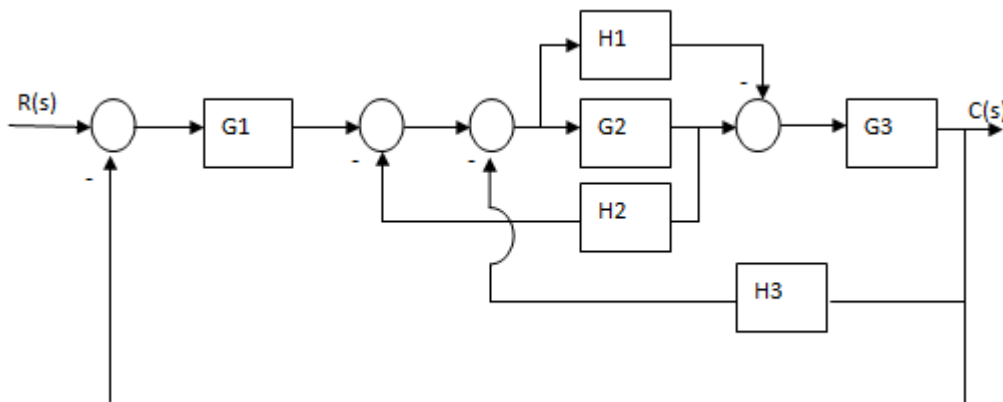

Figure 7
- 14) **Find $C(s)/R(s)$** for the block diagram shown in Figure 7: